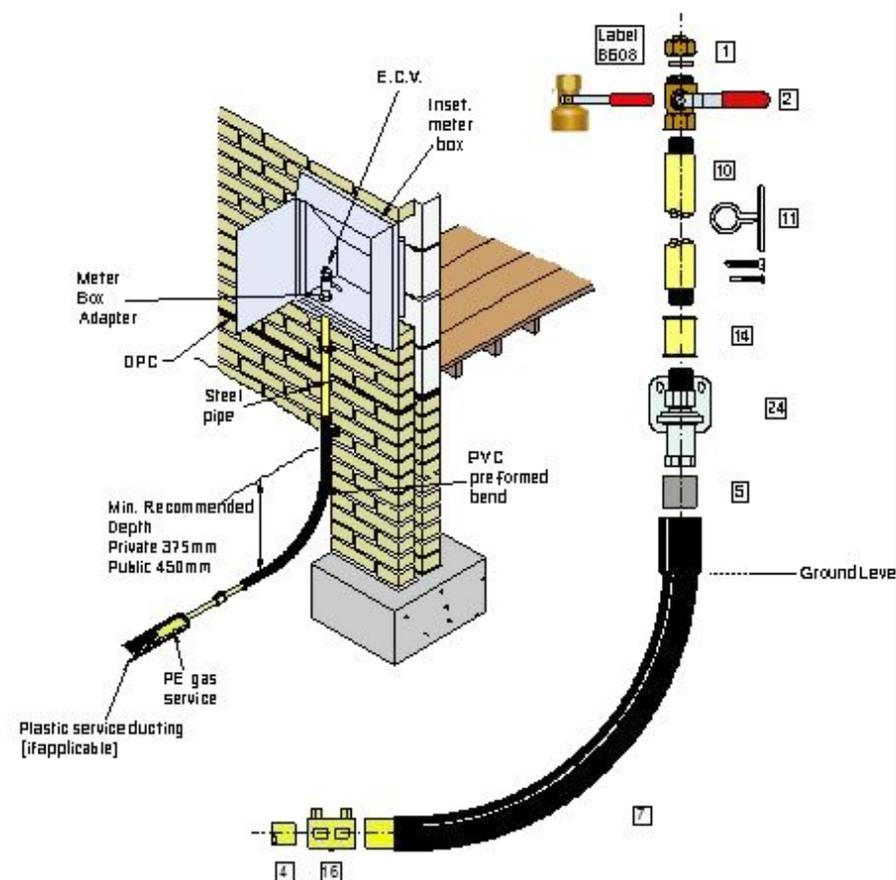
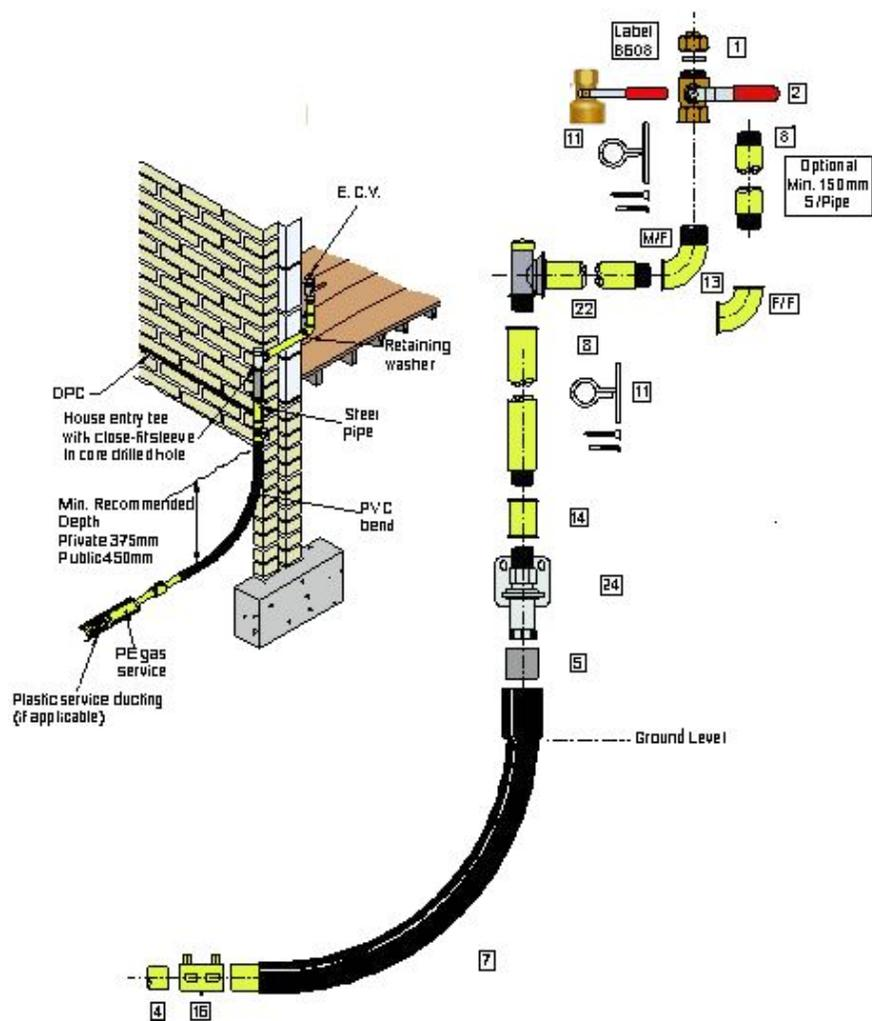

Figure 85 - PE service to inset meter box
Figure 86 - PE service to above ground entry position
- steel pipe must be used as shown in Figure 85 & Figure 86.
Note: Figure 86 illustrates the house entry tee with a screwed BSP thread to allow the steel riser to be connected.